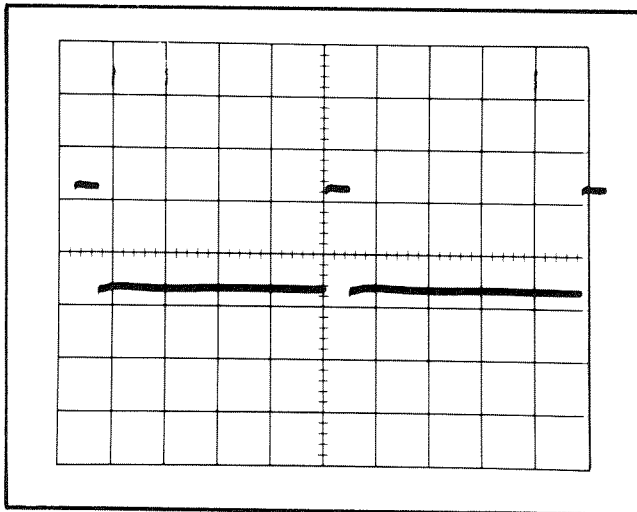

Fig. 5-13. CRT display when checking sweep holdoff time.
c. CHECK—The holdoff time (see Fig. 5-13) corresponds with the values given in Table 5-10.